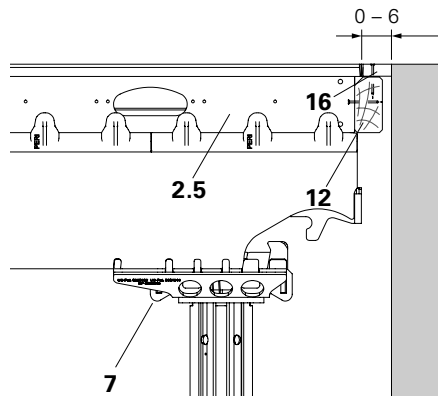

Fig. A5.22
1. Place Combihead SCK (7) or Prop-head SSK (6) in a recessed position under the Main Beam SLT (2.5).
2. Nail Filler Timber SPH (12) or timber up to max. 6 cm on the panel.
3. Install formlining (16) and secure with nails. (Fig. A5.22 + A5.23)